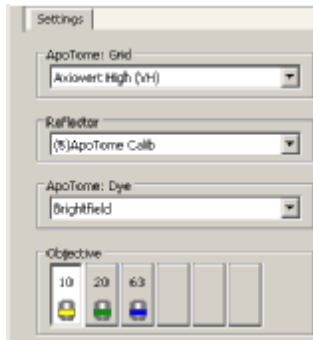

Figure 1
4. Using the calibration wizard settings page (Figure 1), identify which grid has been inserted into the ApoTome, set the reflector to the ApoTome calibration block position, set the ApoTome dye to brightfield and select an objective. Click *Next* to move onto the next page.